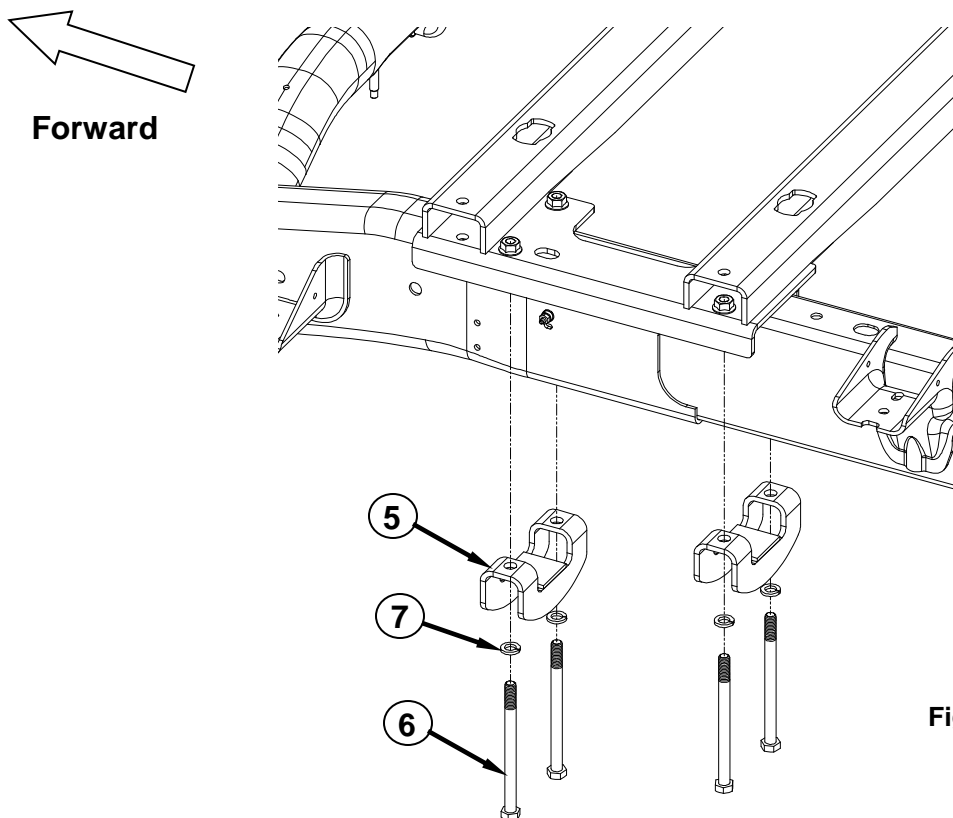

Figure 12
- Loosely attach clamping brackets (5) to frame using 1/2" x 6.5" hex head bolts (6) and 1/2" lock washers (7). Hand tighten keeping the flat portion of the bracket even on the bottom of the frame. (**Figure 12**). Be sure that the rail holes align with holes in the bed.